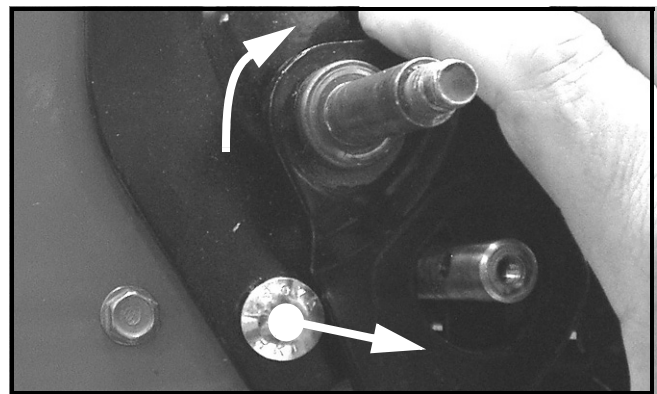

FIGURE 10
19. Rotate the rear pivot rod assembly clockwise, around the transmission's output shaft, moving it to the rear to provide clearance and remove and discard the lower handle bracket mounting carriage bolt. See Figure 10.